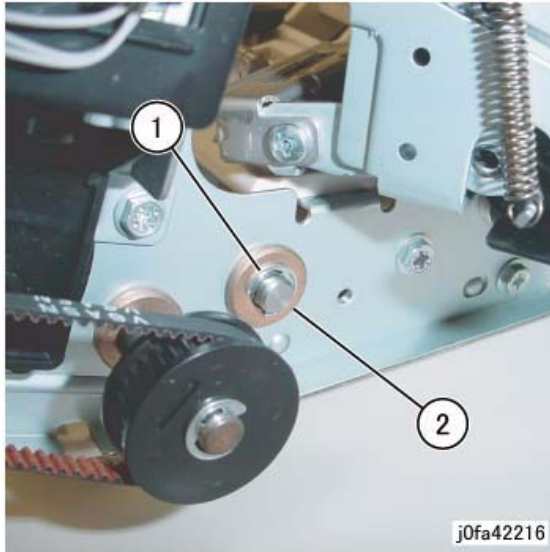

Figure 2 Removing the Bearing (j0fa42216)
5. Remove the front Bearing. (Figure 2)